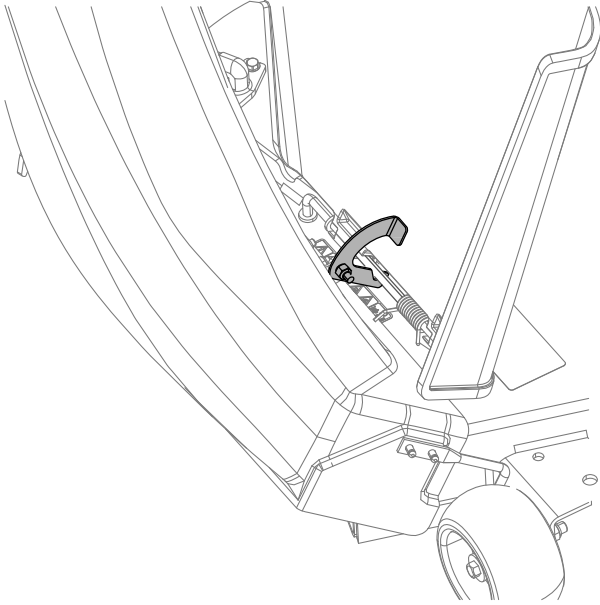
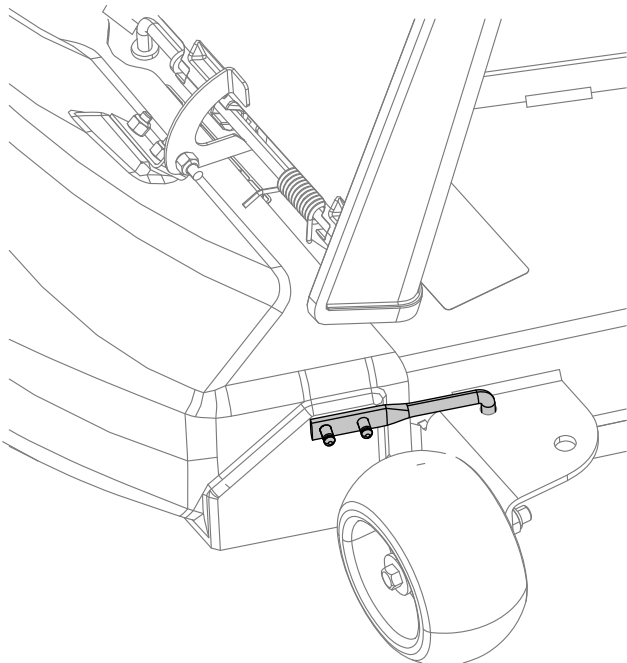

Figure 26
Figure 27
- On the top of the chute, engage the hook-shaped latch around the pivot rod of the deflector assembly (Figure 26 and Figure 27).